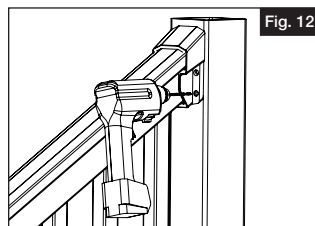
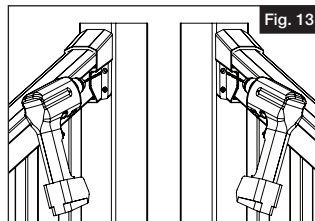

Fig. 12
Fig. 13
- c. Looking down from above, check to ensure screws penetrate the wood post (or plastic spacer of post install kit) (Fig 12).
- a. Center your bracket on the post. Using the holes in the bracket as a guide, pre-drill one of the lower holes with a  $\frac{1}{8}$ " drill bit (Fig 12). Drive one of the #10 x 2" screws through this hole. Pre-drill the other lower hole and drive another 2" screw into it. Now pre-drill the upper 2 holes in the bracket (Fig 13). Drive two more 2" screws into those holes. Be careful not to overtighten.